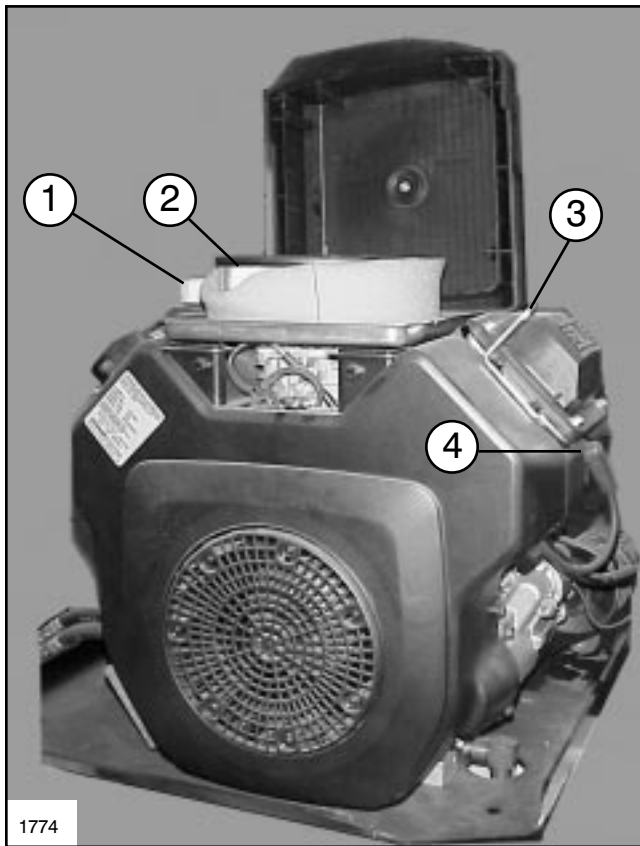
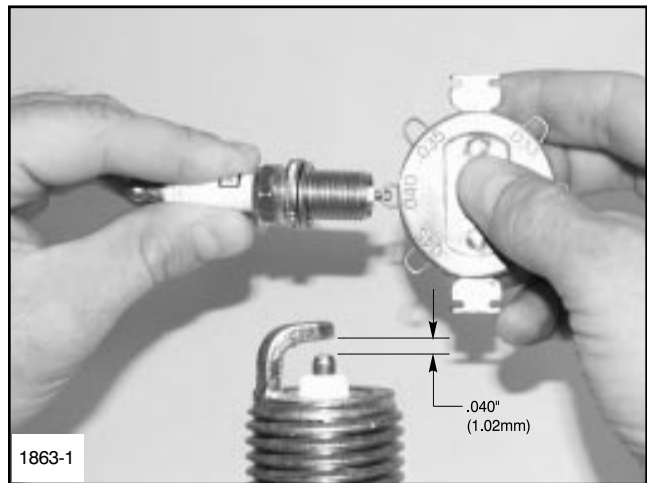

FIG. 18
FIG. 19
Every 100 hours of operation remove the spark plug (See FIG. 18), check condition and reset the gap (See FIG. 19), or replace with a new plug, as necessary. Replace spark plugs after every 400 operating hours to assure proper engine performance. Use a Champion® type RC12YC (or equivalent) spark plug.
3. Check the gap using a wire feeler gauge. Adjust the gap to .040 in. (1.02mm) by carefully bending the ground electrode. (See FIG. 19)